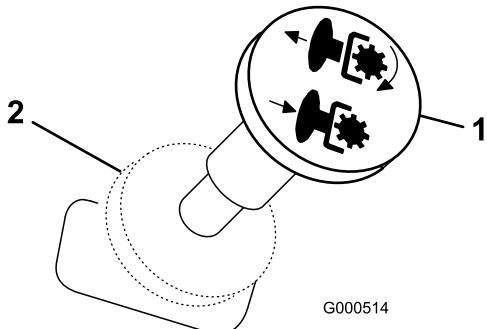

Figure 10
- Pull out on the blade control switch to engage blades (Figure 10).
Push the blade control switch to Off to disengage the blades (Figure 10).